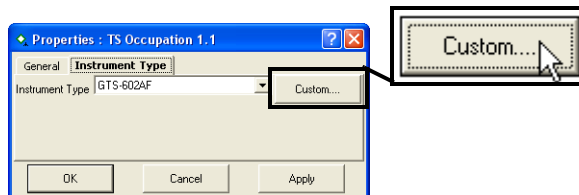

Figure 5-91. Open Custom TS Instrument List
2. Click **Custom** (Figure 5-91 on page 5-63) to display the *Custom TS Instrument List*.